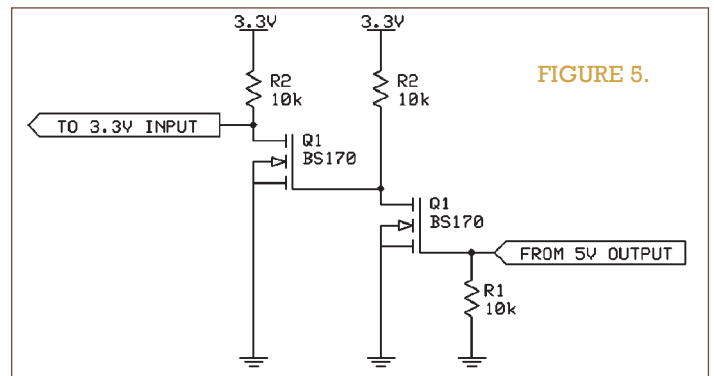

FIGURE 5.
While inversion is easily handled in software on a microcontroller, if for some reason you cannot have the signal inverted in your design and want to use the FET design, you can also create a two-stage buffer as shown in **Figure 5**. In this circuit, the signal is double inverted, making the output signal follow the input relative to the voltage supply levels.
■ FIGURE 5. FT232R schematic symbol.